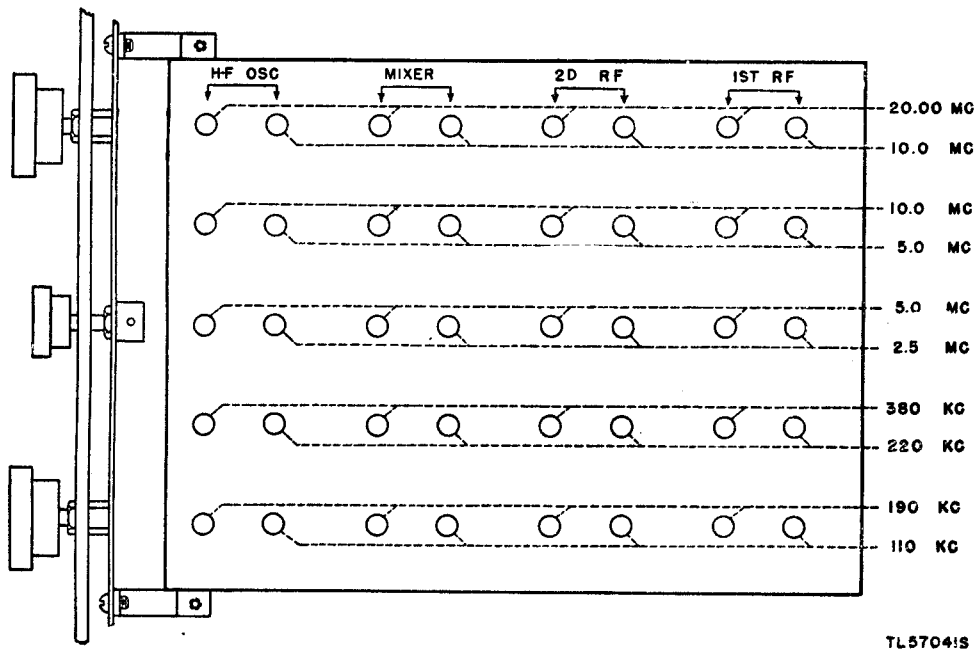
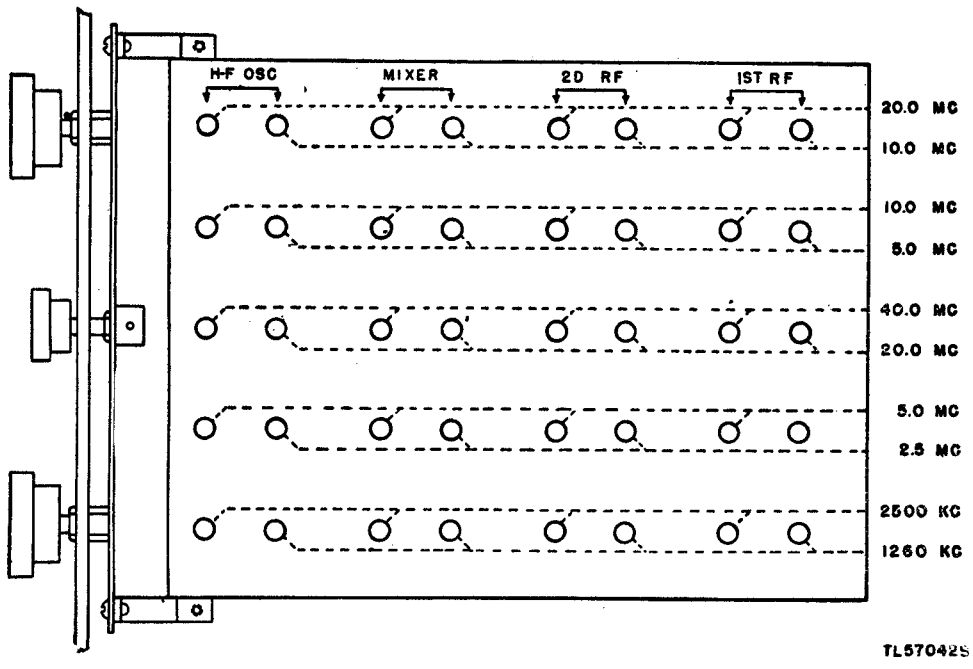

Figure 46. Radio Receiver BC-779-(\*), alinement chart.
Figure 47. Radio Receiver BC-794-(\*), alinement chart.
shown in figures 46, 47, 48, and 49, respectively. If necessary, the second harmonic can generally be used when the fundamental frequency is not available. For example, a signal generator covering all frequencies from 100 kc to 20 mc, in addition to being ideal for checking Radio Receiver BC-779-(\*), could be used to check Radio Receiver BC-794-(\*), by using the second harmonic of 20 mc instead of the 40 mc called for in figure 47. The signal generator should have an output of about 100 microvolts and an output impedance of approximately 100 ohms for best results when alining the r-f and h-f oscillator circuits. For i-f alinement these values are not critical. The frequency calibration of the signal generator is extremely important in order that the receiver dial calibration be correct.
b. To correct dial calibration, refer to an alinement chart, figure 46, 47, 48, or 49 for the location of the h-f oscillator adjustments as well as the signal frequencies at which the settings should be made. If the 2.5- to 5.0-mc band is to be corrected, the signal generator may be *accurately* set to 2.5 mc and its second harmonic (if strong enough) used for the 5.0-mc end of the band. In either case, whether the 5.0-mc frequency is the fundamental or second harmonic, the 5.0-mc frequency *must* be accurate. This requires that the setting of the signal generator be accurately adjusted by the use of a frequency meter as described in paragraph 94. The output of the signal generator should be unmodulated and the SIGNAL MOD-CW switch on the receiver turned to CW. Set the BEAT OSCILLATOR control at 0, the AUDIO GAIN at 10, and the AVC-MANUAL switch on MANUAL. Disconnect the output meter and use headphones or loudspeaker to make the necessary adjustments by the zero beat method. Connect the signal generator to the antenna terminals for this test.
c. Set the receiver MAIN TUNING dial to the 5.0-mc end and then tune it to zero beat with the 5.0-mc output of the accurately calibrated signal generator. Notice the approximate dial error. Then turn the MAIN TUNING dial slightly toward the 5.0-mc calibration line until the beat note rises to a high pitch. Do not turn the dial far enough to raise the beat note so high that you cannot hear it. With the alinement screw driver adjust the trimmer capacitor marked H-F OSC-5.0 MC (fig. 46, 47,
48, or 49) until the beat note is again zero. Turn the MAIN TUNING dial still farther toward the 5.0-mc line and make a further adjustment of the trimmer capacitor to return to zero beat. Repeat this procedure as many times as necessary to bring the dial to exactly 5.0 mc. (It is evident that the dial could be set at once on exactly 5.0 mc and the trimmer turned enough at one time to produce zero beat, but the step-by-step method is recommended). Accurately set the signal generator to 2.5 mc by calibrating it with the frequency meter. Then tune in the 2.5-mc signal at the 1-f end of the MAIN TUNING dial and correct the calibration step-by-step, as before, using the inductance trimming adjustment H-F OSC-2.5 MC (fig. 46, 47, 48, or 49). Accurately set the signal generator for an output of 5 mc again, and tune the receiver to this frequency. It will be found that the adjustment of the inductance at 2.5 mc has changed the correction previously made at 5.0 mc. This is perfectly normal, because an adjustment at one end of the dial also affects the other end of the band. It will therefore be necessary to go back and forth several times from 2.5 to 5.0 mc in order to bring both ends of the dial scale into exact agreement with the signal frequency. Be sure that the signal generator is always accurately set.
c. Starting with the 2.5- to 5.0-mc band, set the MAIN TUNING dial at 5.0 mc (band spread dial at 100) and adjust the frequency of the signal generator for peak deflection of the output meter. Then check and adjust the setting of the trimmer marked MIXER and 5.0 MC in figure 46, 47, 48, or 49 for maximum reading on the output meter. Repeat this procedure on trimmers indicated as 2D RF and 1ST RF in the same row. If readjustments on one of these settings result in a sizable increase in output meter reading, slightly alter the SENSITIVITY control to reduce the reading to half-scale. After each adjustment check the tuning of the receiver to make sure that the test signal is still accurately tuned. The BAND SPREAD control may be used as a vernier for this purpose in those bands in which it operates (par. 15c). *This tuning check is extremely important at the high end of the 10- to 20-mc and 20- to 40-mc bands where there is some slight interaction between the mixer and h-f oscillator circuit.* After checking the three trimmers at the high end of this band, turn the MAIN TUNING dial to 2.5 mc and retune the signal generator to suit. Then check the three inductance adjuster settings marked 2.5 mc in the same row. Since adjustments at one end of a band also affect the other end of that band, it will be necessary to repeat the above procedure until no further improvement can be secured. The number of repetitions necessary will depend on how much mistuning existed to start with. Check the rest of the bands in the same manner.